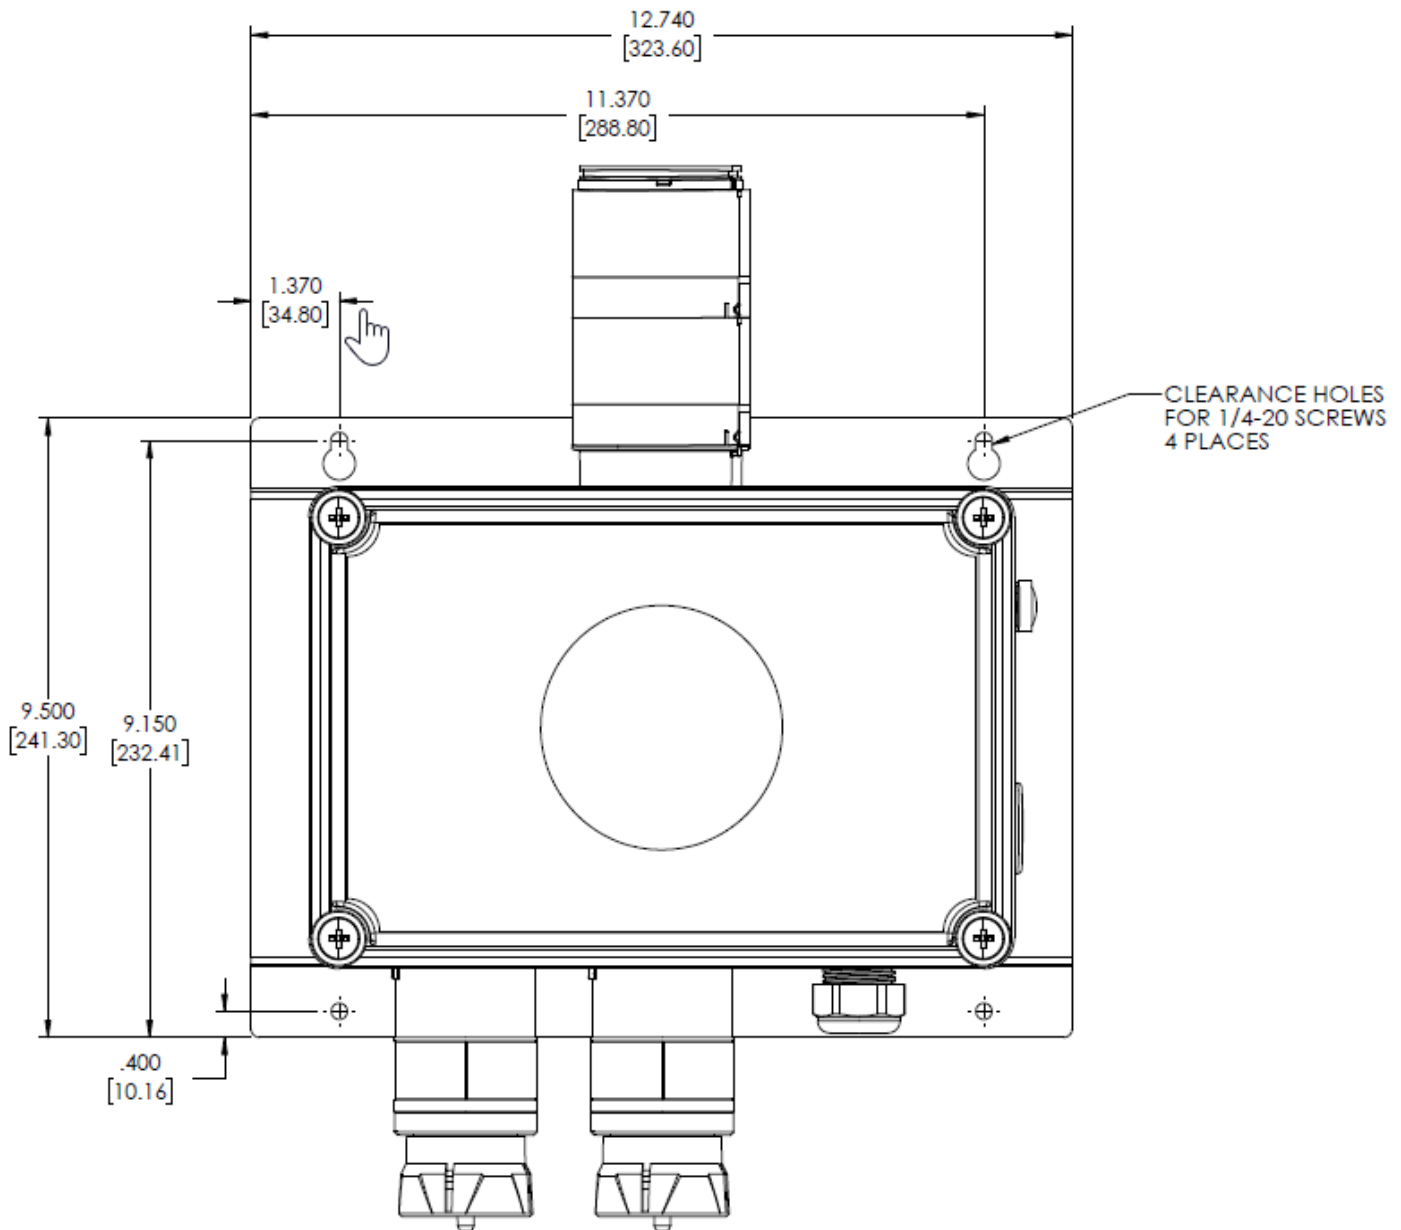

Figure 12 Mounting Bracket (Optional)
- Mount TG5000 to surface using SS mounting bracket kit 10242982. See figure 12. (For proper sensor orientation, see 3.3.4 Sensor Orientation)